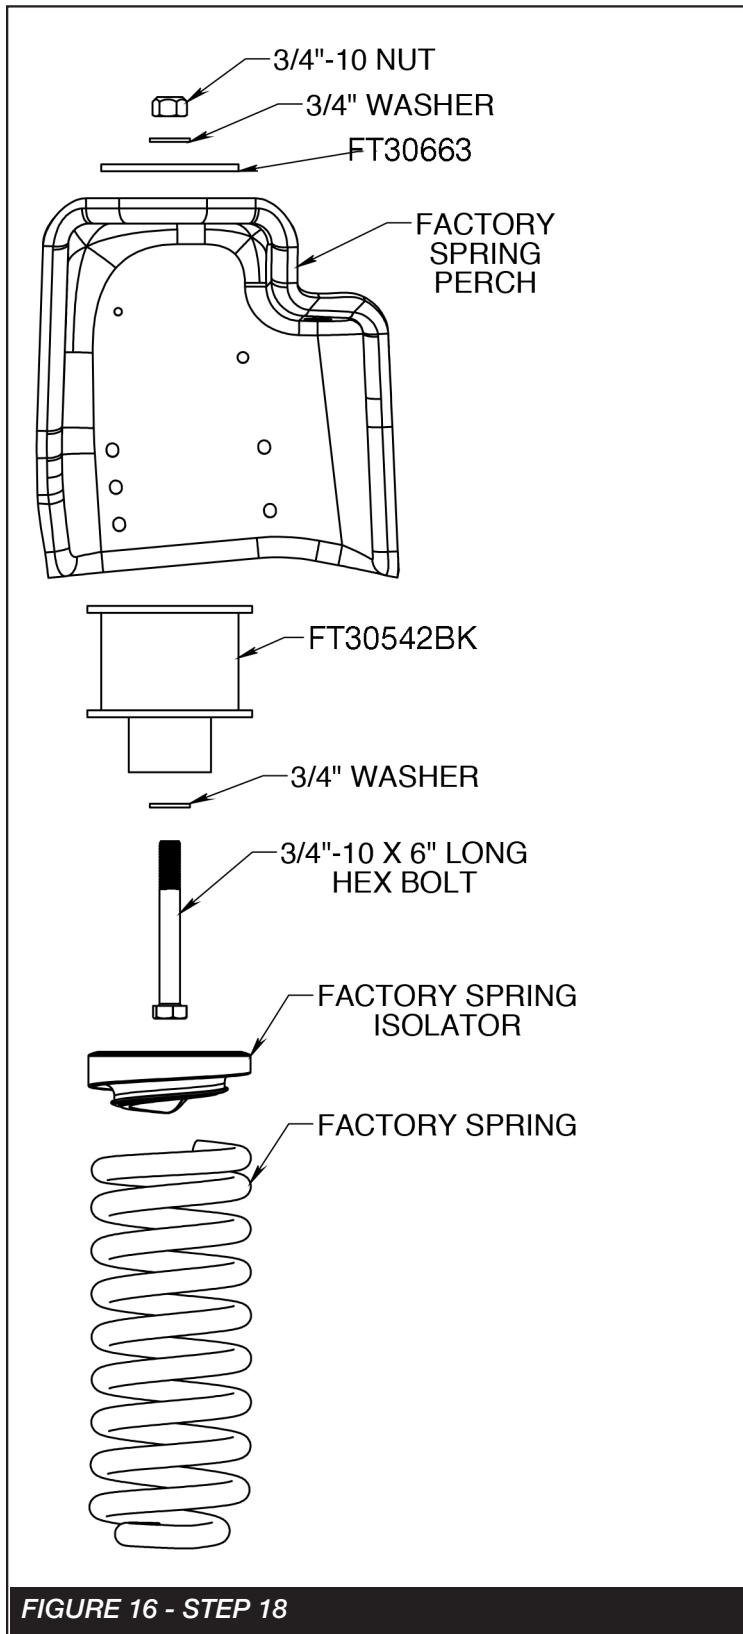

FIGURE 16 - STEP 18
18. Locate the FT30542BK (Coil spacer), 3/4"-10 x 6" bolt and the FT30663 washer. Install all the components into the factory coil bucket in the order shown below using the original factory upper coil isolator. Torque the 3/4" bolt to 129 ft-lbs. **SEE FIGURE 16**